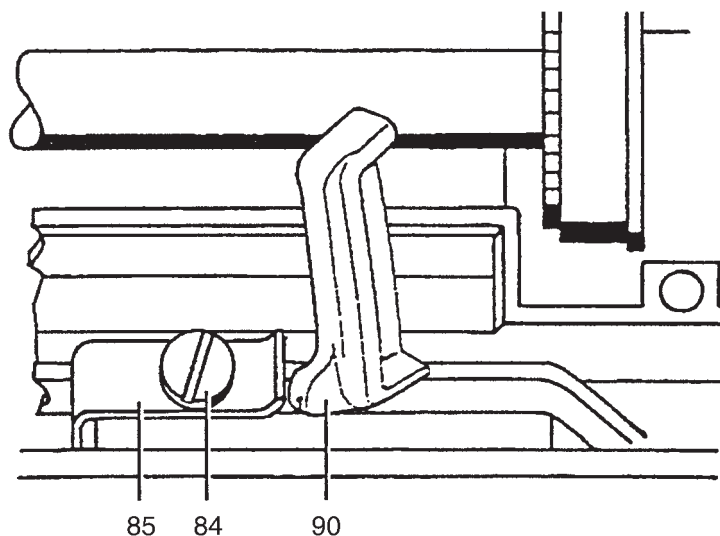

Fig. 38
- Push stop 85 against crank 90 (fig. 38).